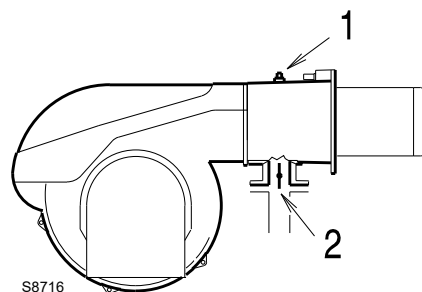

Fig. 25
Gas pressure measured at the test point 1)(Fig. 25), with:
Pressure loss at gas butterfly valve 2)(Fig. 25) with maximum opening: 90°.
- Subtract the combustion chamber pressure from the gas pressure measured at test point 1)(Fig. 25).
Gas pressure at test point 1)(Fig. 25) = 13.1 mbar
To know the required gas pressure at test point 1)(Fig. 25), set the maximum output required from the burner operation, then:
- Read, on the right (column 1) the socket pressure 1)(Fig. 25).
pressure required at test point 1)(Fig. 25).